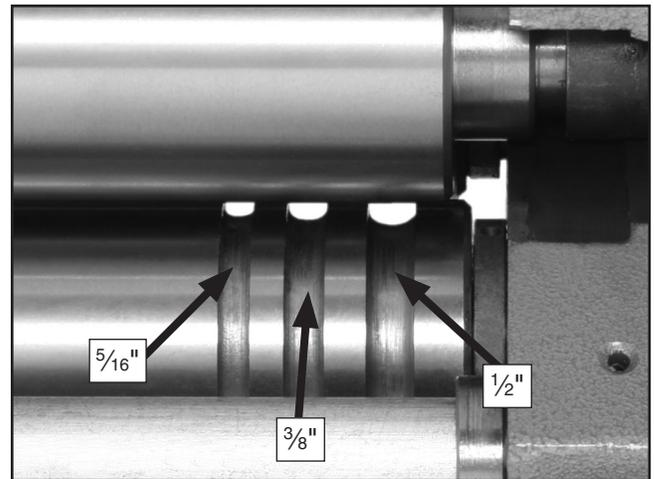

Figure 28. Wire grooves.
1. Place your workpiece into the smallest possible groove on the wheel. The three sizes are $\frac{5}{16}$ " , $\frac{3}{8}$ " , and $\frac{1}{2}$ " (**Figure 28**).